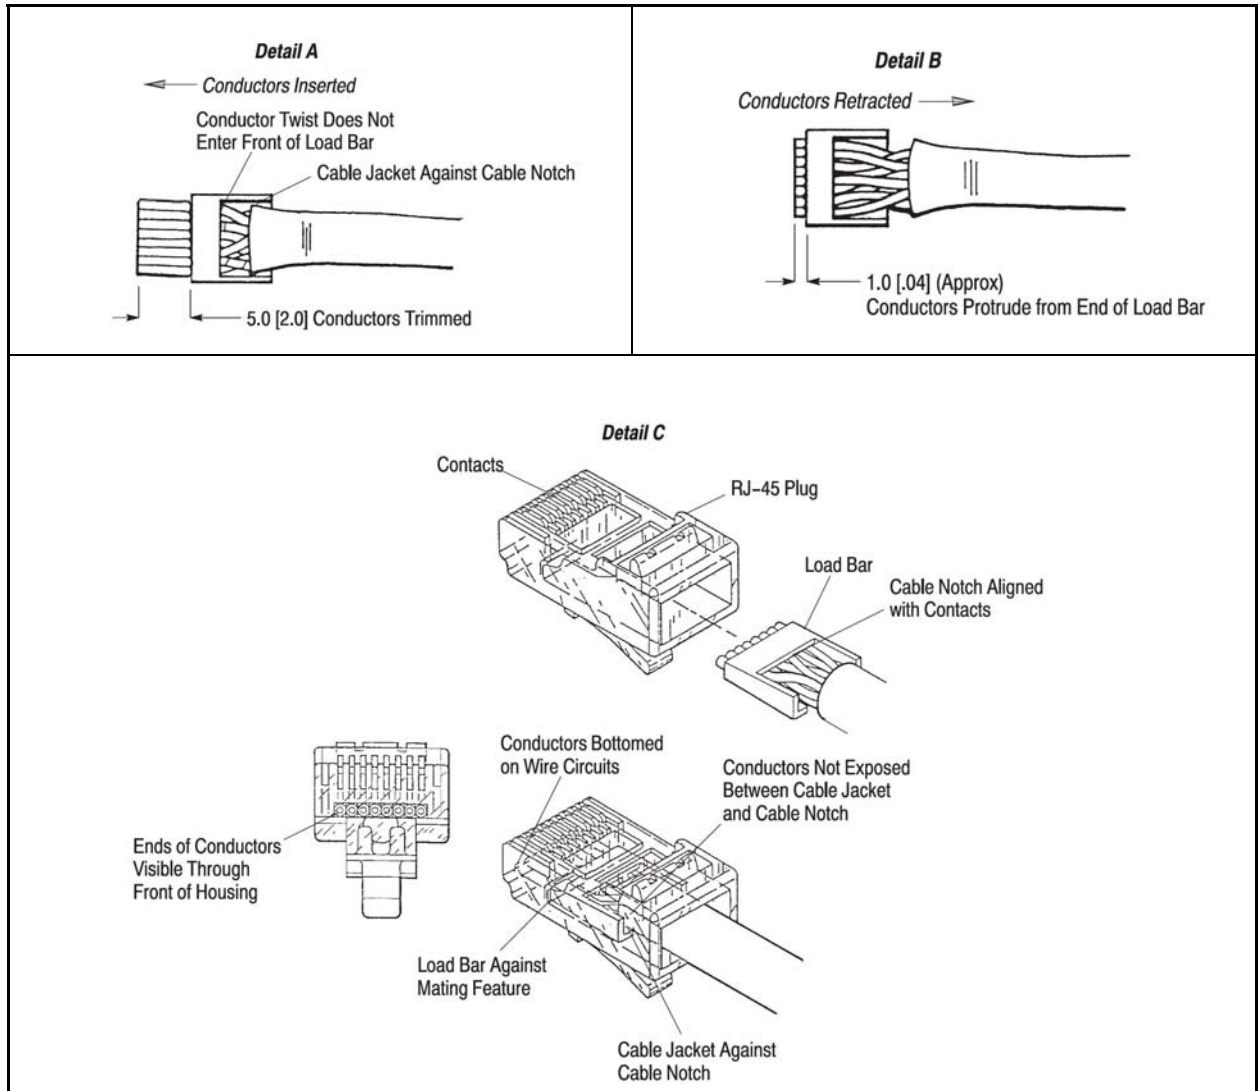

Figure 11-4: Termination Requirements
1. The conductors (maintaining arrangement) must be inserted into the load bar (oriented so that the cable notch will align with the contacts) until the cable jacket rests against the cable notch. The conductor twist must not enter the front of the load bar. The conductors must be trimmed evenly and square with the front edge of the load bar to the dimension given in Figure 11-4, Detail A.
2. The conductors must be retracted from the load bar so that the conductors protrude from the end of the load bar to the dimension given in Figure 11-4, Detail B. The top of the load bar must not be deformed.
3. The load bar (oriented so that the cable notch is aligned with the contacts) must be inserted into the RJ-45 plug until it butts against the mating feature of the RJ-45 plug, and the conductors are bottomed on the wire circuits. The cable jacket must be against the cable notch after the load bar is fully seated. The conductors must not be exposed between the cable jacket and cable notch. The ends of the conductors must be clearly visible through the front of the RJ-45 plug. See Figure 11-4, Detail C.